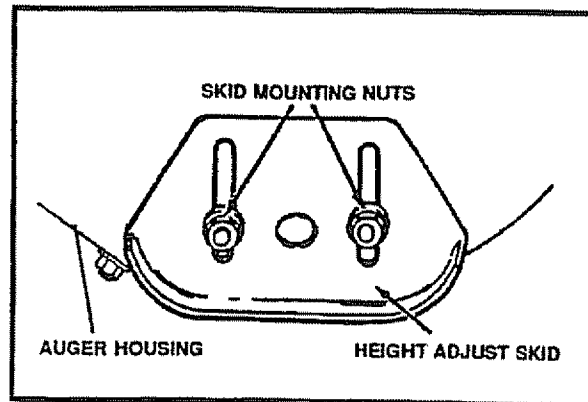

FIG. 20
This snow thrower is equipped with two height adjustment skids, located on the outside of the auger housing (See Fig. 20). These skids elevate the front of the snow thrower. For normal hard surfaces, adjust the skids as follows:
- Loosen the skid mounting nuts (See Fig. 20) and push the skid down until it touches the ground. Retighten the mounting nuts.